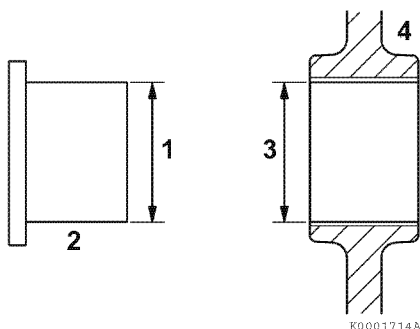

Figure 6-80
1. Measure the outside diameter (**Figure 6-80, (1)**) of the idler gear shaft (**Figure 6-80, (2)**). *See Idler Gear Shaft and Bushing on page 6-8 for specifications.*
2. Measure the inside diameter (**Figure 6-80, (3)**) of the idler gear bushing (**Figure 6-80, (4)**). *See Idler Gear Shaft and Bushing on page 6-8 for specifications.*